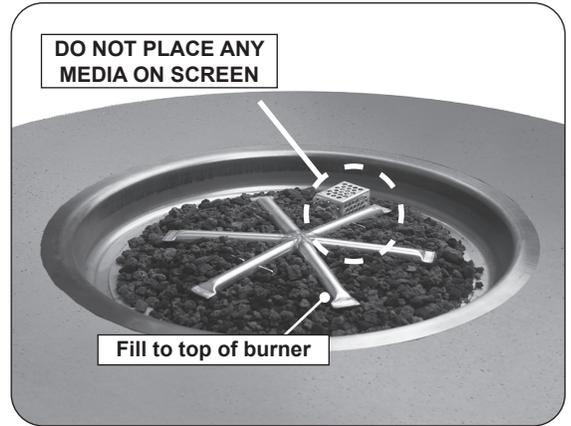
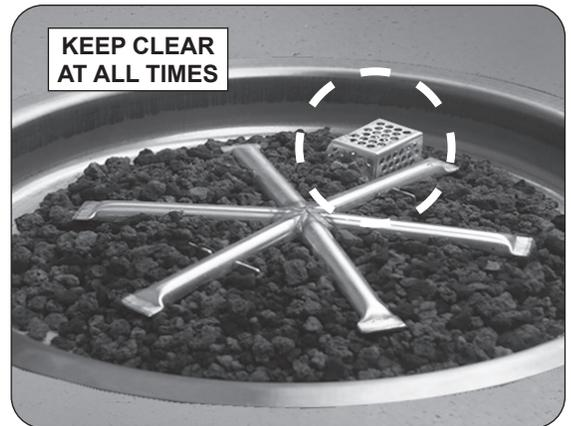

Fig. 41-1 Place lava granules
Fig. 41-2 Screen detail
1. Pour the 5 or 10 lb bag of lava granules into the burner pan (with the exception of the screen). Spread the granules within the burner area as shown in Fig. 41-1 and Fig. 41-2. **Only fill the granules up to the top of the burner tube.**